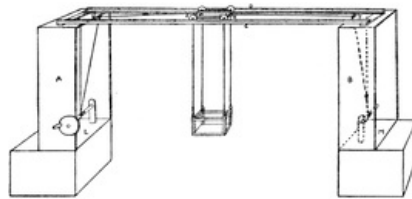
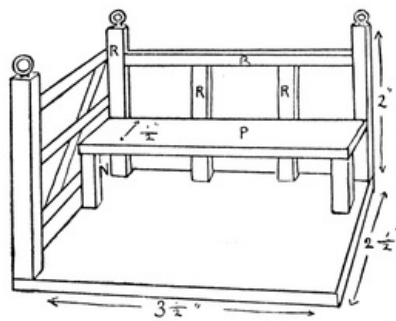

FIG. 382
FIG. 385
**A Transporter Bridge.** The supports for this bridge, A and B (Fig. 382), are two small wooden Bovril boxes (those containing one dozen one-ounce tins); their bottoms have been knocked out and they are mounted on wooden supports or on two smaller boxes of about the same width.
Fig. 385 shows part of the car and gives the necessary measurements. Side R is made of stripwood,  $\frac{1}{4}$  inch by  $\frac{1}{4}$  inch. The gates at each end are made of strips of cardboard. Four screw-eyes are placed in the corner posts for hanging the car to trolley (see Fig. 382). Pieces of thread are tied to the screw-eyes at H and G, and pass through screw-eyes in the supports (T and U in Fig. 382). Two windlasses can be made to stand on M and L, similar to the winding gear described in making the crane (Chapter V), by means of which the car can be drawn backward and forward. The bridge may stand across a piece of cardboard painted to represent a river.